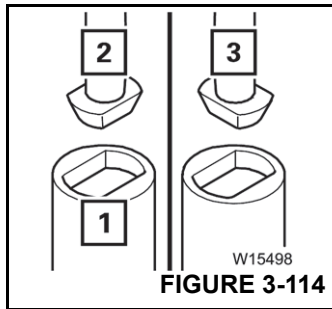

FIGURE 3-114
If the lifting cylinders (1) (Figure 3-114) are to move into the cutouts, then the lifting cylinders have to be in the unlocked (2) position.